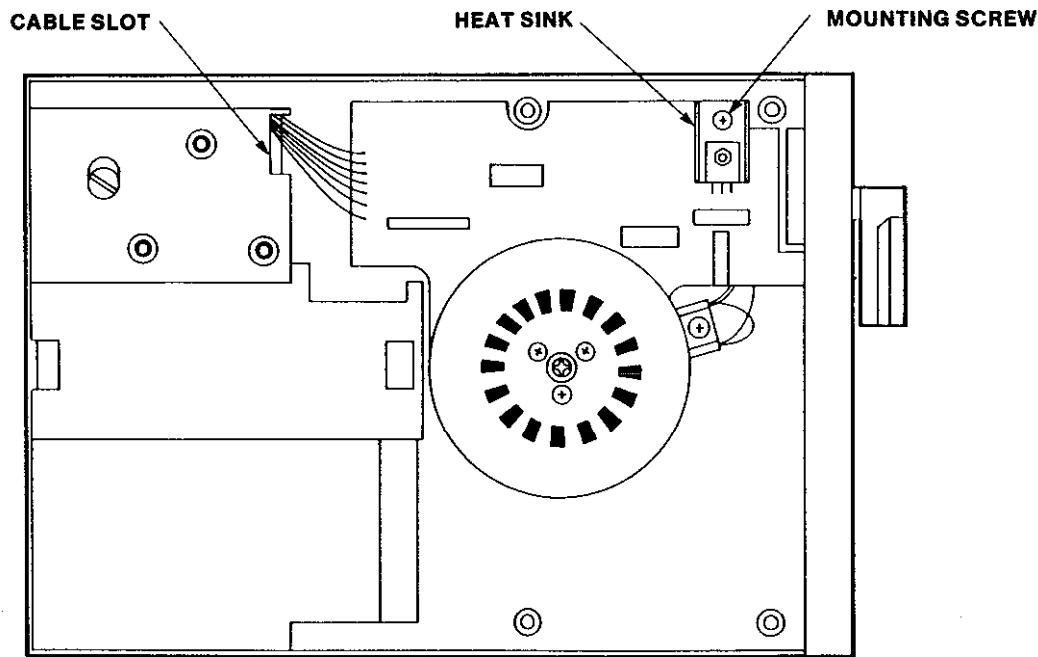

FIGURE 6-9
6. Remove the mounting screw attaching the heat sink to the chassis. The heat sink is located on the drive motor servo board (Figure 6-9).
4. Route the connector through the cable slot (Figure 6-9).